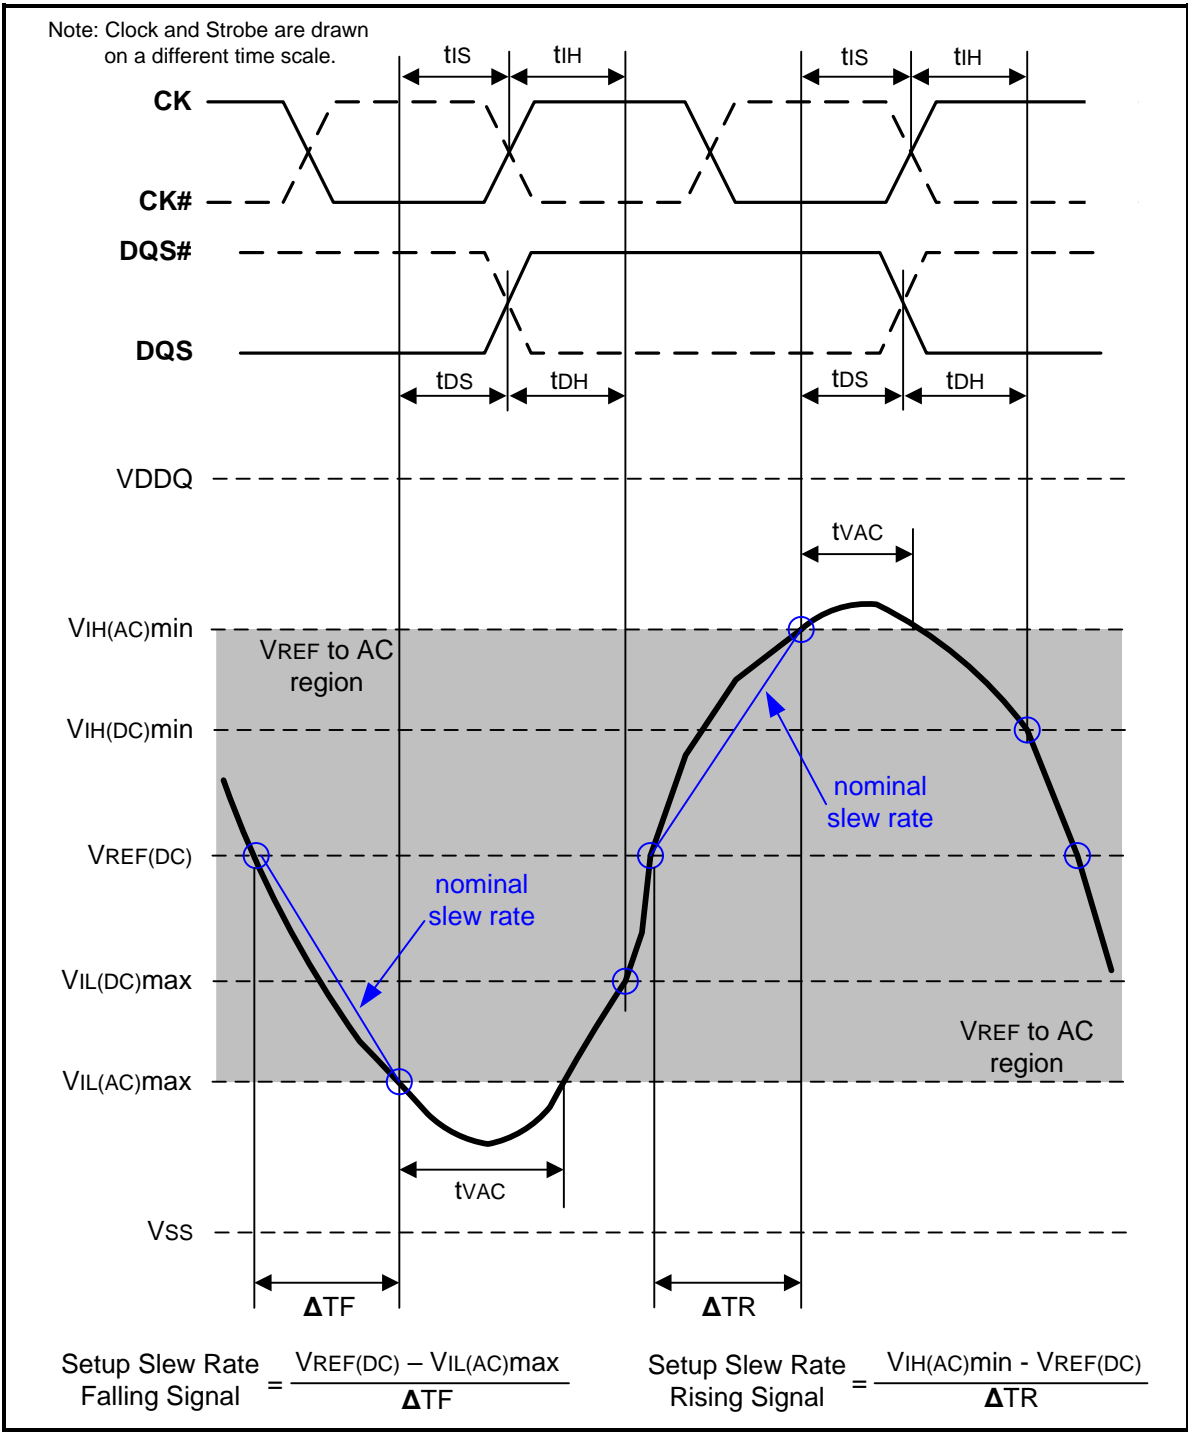
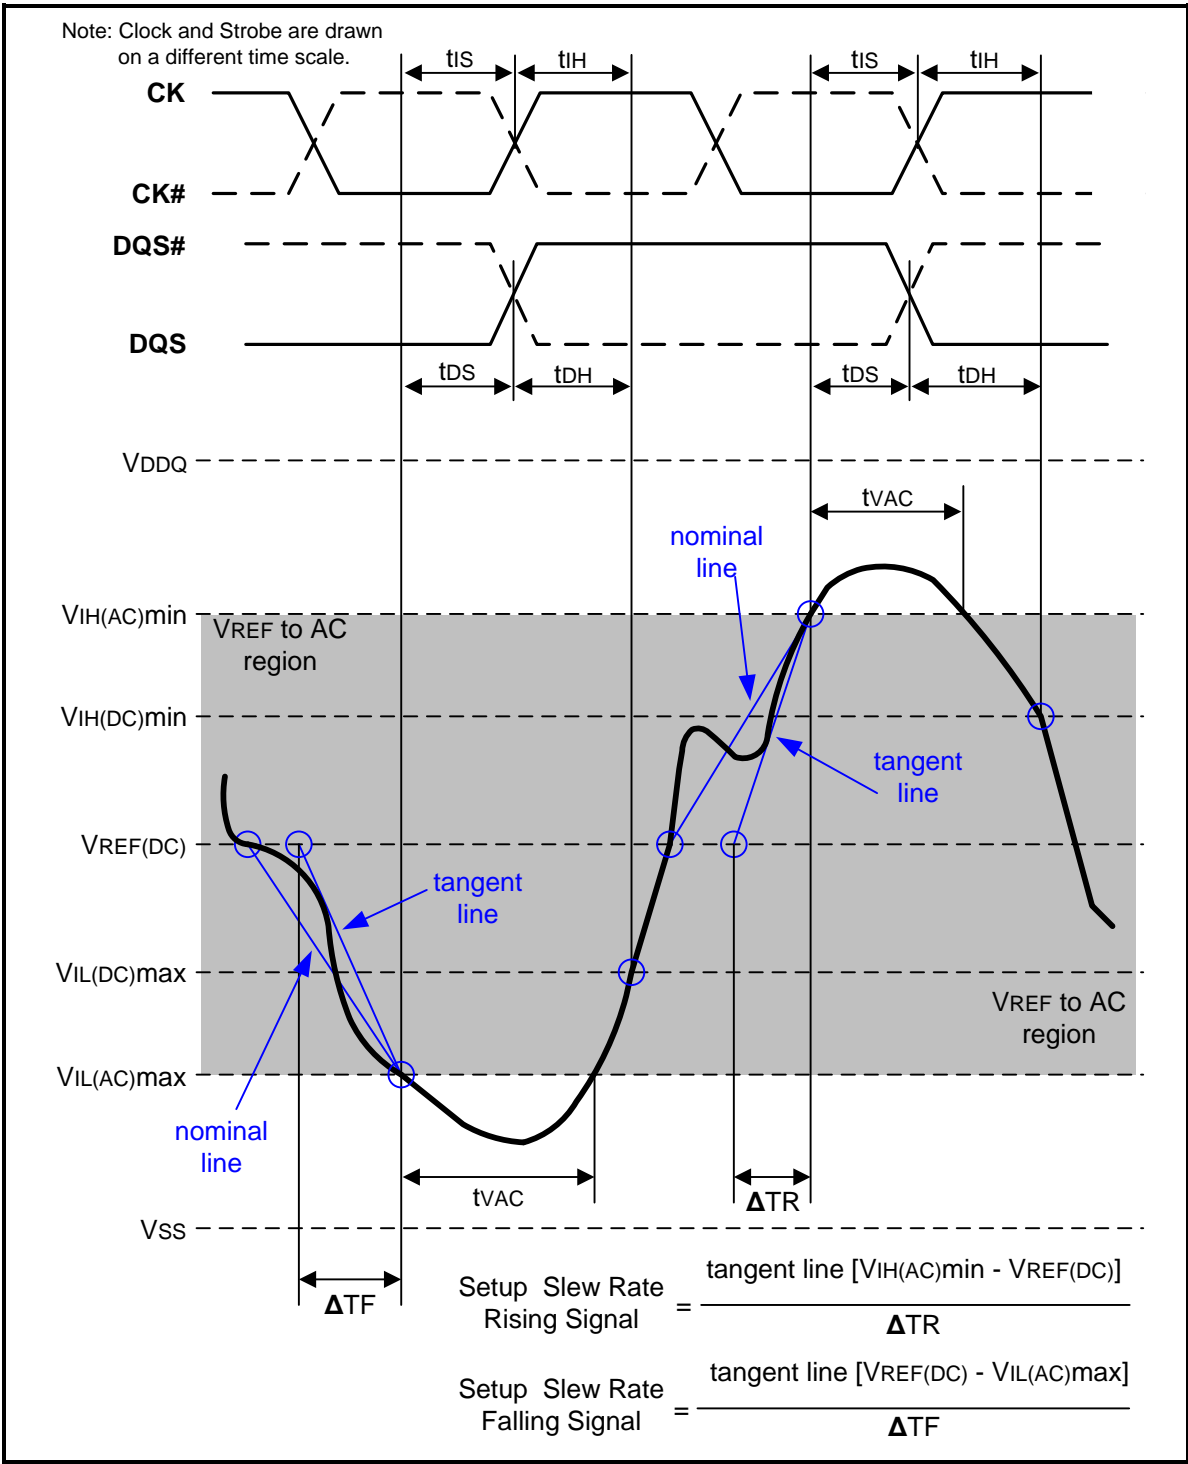

Figure 107 – Illustration of nominal slew rate and t_{vac} for setup time t_{ds} (for DQ with respect to strobe) and t_{is} (for ADD/CMD with respect to clock)
Figure 109 – Illustration of tangent line for setup time t_{DS} (for DQ with respect to strobe) and t_{IS} (for ADD/CMD with respect to clock)
Setup (tDS) nominal slew rate for a rising signal is defined as the slew rate between the last crossing of VREF(DC) and the first crossing of VIH(AC)min. Setup (tDS) nominal slew rate for a falling signal is defined as the slew rate between the last crossing of VREF(DC) and the first crossing of VIL(AC)max (see Figure 107). If the actual signal is always earlier than the nominal slew rate line between shaded 'VREF(DC) to AC region', use nominal slew rate for derating value. If the actual signal is later than the nominal slew rate line anywhere between shaded 'VREF(DC) to AC region', the slew rate of a tangent line to the actual signal from the AC level to VREF(DC) level is used for derating value (see Figure 109).